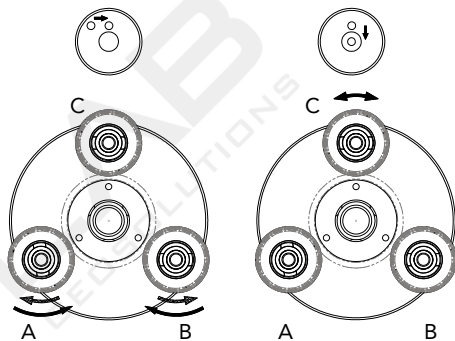

Fig. 3
- Move the bubble to the center of the circle by adjusting the footscrews (shown in fig. 3). Adjust A and B screws to move bubble left and right then adjust the C screw to move the bubble into the center circle.